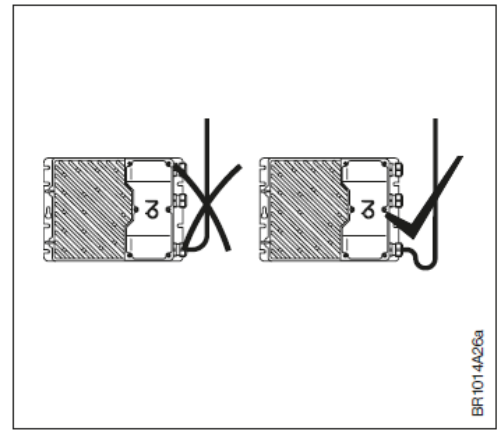

Fig. 3-7:
- To prevent water from entering NI-DV via cables and cable glands, ensure that connection is performed in such a way that water is prevented from accumulating around the cable in the gland. See fig. 3-7.